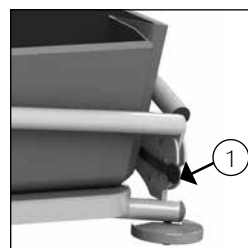

Figure 4 Locking side rail.
- The side rail is equipped with safeguards so that the client cannot raise the side rails themselves (See figure 4).
- Unlock the safeguard by using one hand to pull the protruding lip inwards and raising the side rail with your other hand (1) (See figure 4).